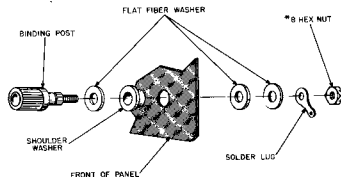

FIGURE 4. HOW TO MOUNT A BINDING POST
- (X) Mount the three binding posts in the three holes at the bottom of the front panel. Position the binding post holes up and down. The red binding post (J-2) must be in the center hole. The black binding posts (J-1 and J-3) must be on either side of J-2. Figure 4 shows how to mount a binding post using a shouldered (extruded) fiber washer, three flat fiber washers, a solder lug, and a nut.